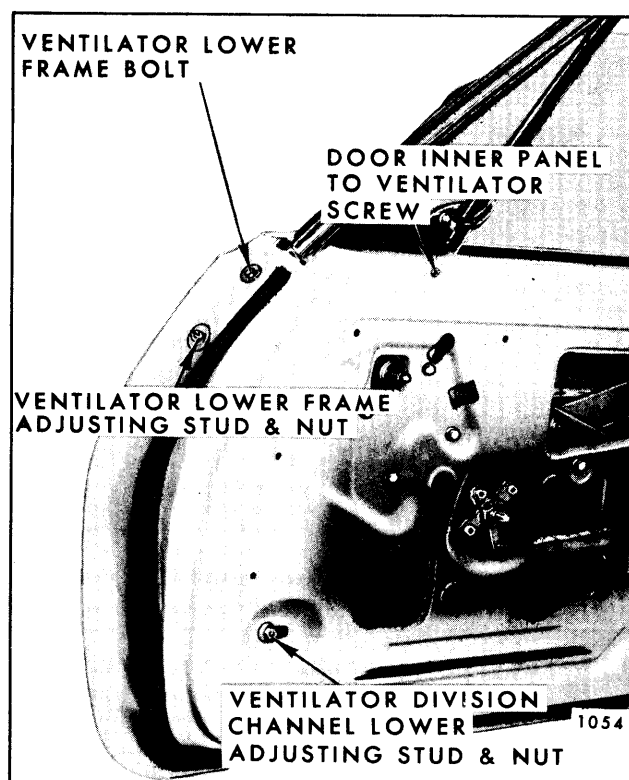

Fig. 6-75—Front Door Ventilator Attachments - “Z” Styles
2. Remove ventilator division channel lower adjusting stud nut and ventilator to door inner panel attaching screw (See Figure 6-75). Turn stud as far as possible out of contact with door inner panel.
3. On door hinge pillar, remove ventilator frame attaching bolt and ventilator frame lower adjusting stud nut (See Figure 6-75).
1. A slight fore and aft adjustment of ventilator division channel is available at lower adjusting stud and nut (Figure 6-75) by loosening attaching nut and sliding stud in slot provided. The division channel can also be positioned in or out by loosening nut and turning stud in or out as required and tightening nut.
**NOTE:** Adjustment No. 2 first requires loosening of ventilator front frame lower attaching bolt (See Figure 6-75).